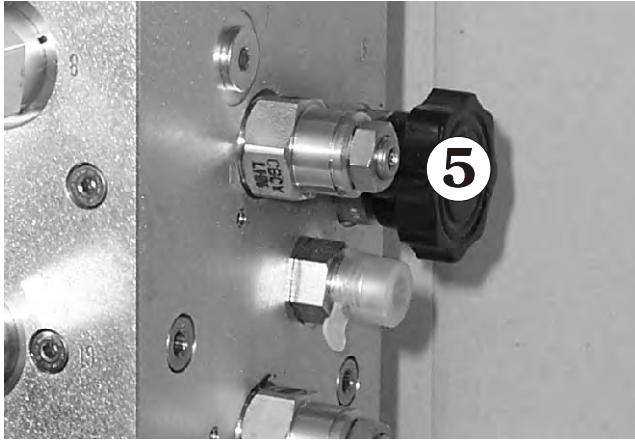

Figure 9.9
- Inside the hydraulic compartment, open the free-wheeling valve ⑤ by turning counterclockwise until knob stops. (see Figure 9.9).
- Once the unit has been safely pushed / towed pull the re-set knob ⑦ to re-apply the brakes (see Figure 9.11) and close the free-wheel valve ⑤ (see Figure 9.9).